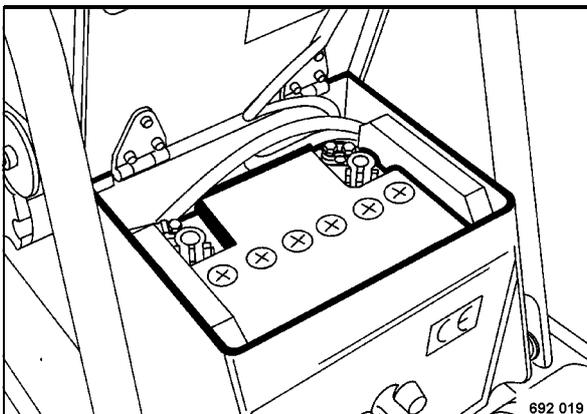

Fig. 58
- Take the battery (Fig. 58) out and clean the battery compartment.